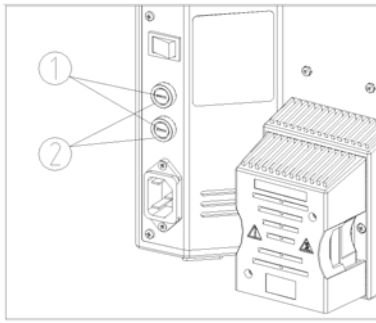

Fig. 25
Turn the power switch to "O" (OFF) before replacing the fuse. Pull out the power cord. Then remove the fuse holder ① from the fuse base ② with a flathead screwdriver. Install a new fuse and install it in the fuse base (See Fig. 25).